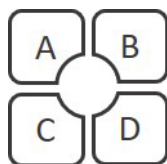

Figure 5. Location and numbering of injection ports on Agilent Seahorse XF sensor cartridges.
- 4 Load 25  $\mu\text{L}$  of compound to each injection port, according to **Table 6**. For the location of the ports, refer to **Figure 5**.